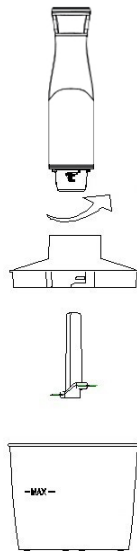

Abb. 2
- Put the products into the bowl (9).
- Note:** do not switch the unit on when the bowl (9) is empty.
- Install the geared lid (8) on the bowl (9).
- Install the motor unit (2) on the geared lid (8) feeding chute, turn the motor unit (2) clockwise until bumping, make sure that the motor unit (2) is fixed properly. Install the motor unit (2) evenly in vertical position (fig. 2).
- To switch the unit on, press and hold down the button (4) .
- When you press and hold the button (4) you can control the chopping knife (10) rotation speed by turning the control knob (5).
- For operation at the maximal rotation speed, press and hold down the button (3) «TURBO».
- During the unit operation hold the motor unit (2) with one hand and the chopper bowl (9) with the other hand.
- After the unit operation, wait till the chopping knife (10) completely stops rotating.
- Disconnect the motor unit (2) from the geared lid (8) by turning the motor unit (2) counterclockwise.
- Remove the geared lid (8) from the bowl (9).